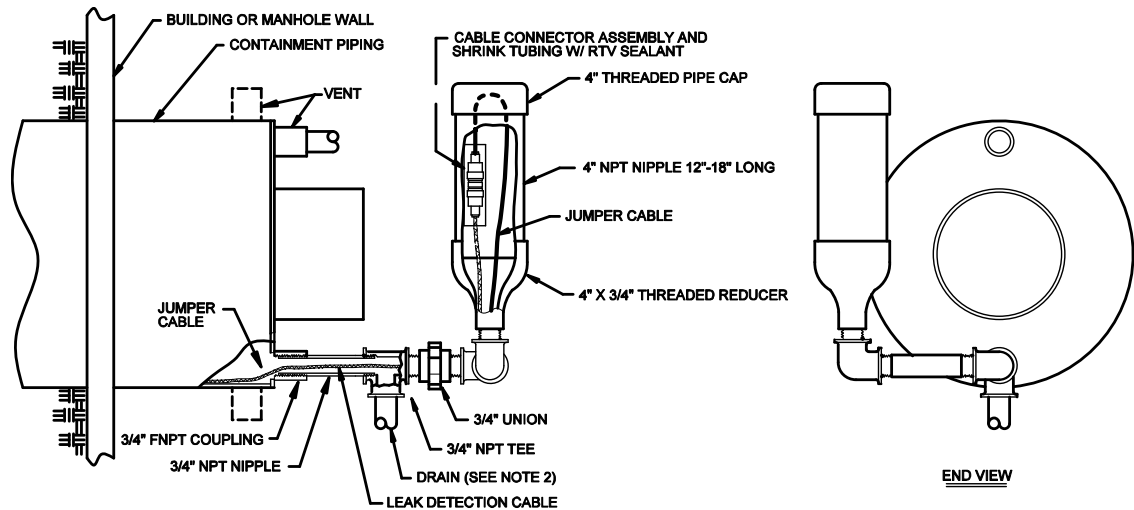

Figure 5-3
15. In contained pipe systems where branch runs and main runs are monitored, jumper cable can be used to return to the main from the branch. For these installations, PermAlert can furnish a cable routing drawing showing locations requiring the installation of sensor cable and jumper. Depending on the design of the secondary contained system and the free unobstructed air space available, both cables (sensor and jumper) may be installed in the secondary containment air space. This will require simultaneously pulling both cables, and most likely will reduce the length of cables that can be pulled at one time. When 2 cables are installed in the same air space, both cables must be pulled out of the secondary containment through the threaded coupling and finally connected together with a cable connector in either: (1) a watertight capped pipe chamber connected to the threaded coupling, as shown in figure 5-3 or (2) a NEMA 4X [IP66] junction box. This type of termination should also be accessible to allow for future maintenance. As an alternative to pulling both cables into the air space of the secondary containment, jumper cable can be routed in electrical conduit. If connectors must be used, it is recommended they be installed in accessible watertight NEMA 4X [IP66] junction boxes located at grade.
2. All sensor cable termination chambers (see figures 5-3 and 5-4) must be completely installed before applying the air test. Also, cap any open vents or drains. Be careful to prevent the pull rope or sensor cable from being blown back into the secondary containment.